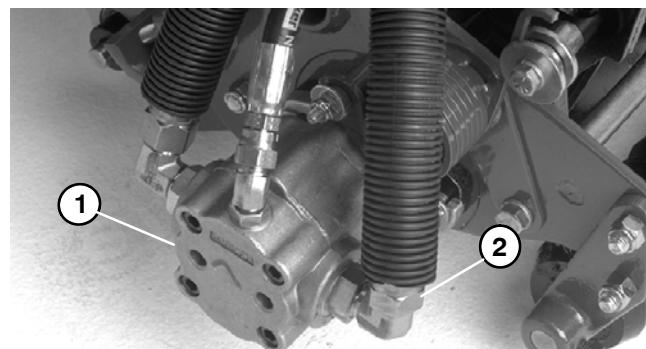

Figure 20
4. Disconnect pressure hose from hydraulic fitting on **left-rear (No. 2) reel motor** (Fig. 20).